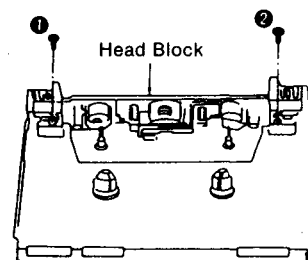

Fig. 5
3. Remove 2 screws (①, ②) in order to remove the head block. (See Fig. 5.)